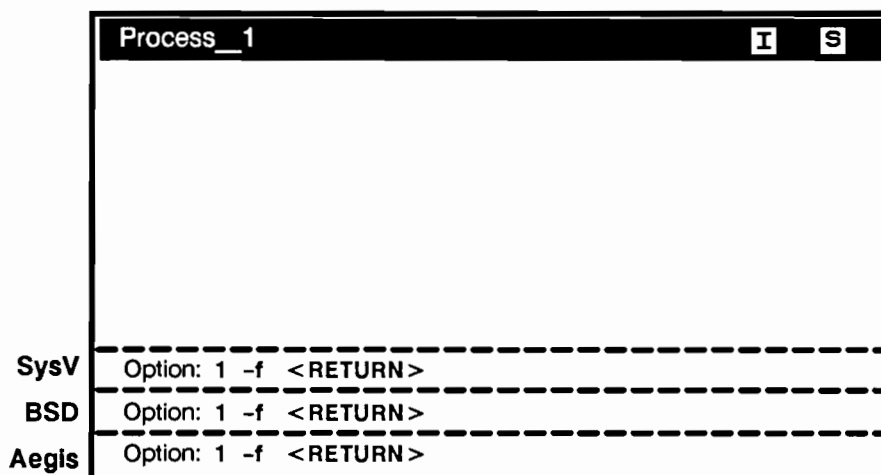

Figure 6-4. Specifying Options for *invol* Utility
3. The **invol** utility queries you for the option to perform. Enter the option as shown in Figure 6-4 to initialize the physical volume.